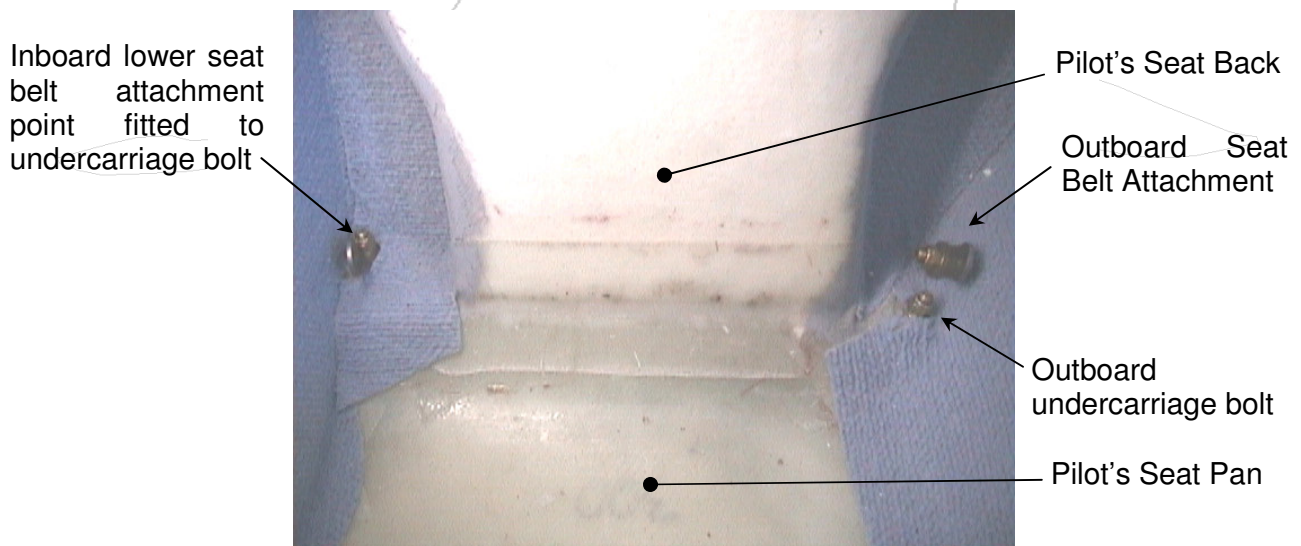

Figure 1. Lower Seat Belt Attachment
Jabiru LSA, SP, UL and early J160 models (including variant models such as Calypso) using the seat belt attachment system shown in Figure 1 below.
In two recent accidents involving Jabiru LSA aircraft the inboard attachment bolt for one of the main undercarriage legs has been torn out through the fuselage structure. Some Jabiru models (see above) use this bolt as the fastener for the inboard lower seat belt attachment. Refer to Figure 1 below.
- ii) Remove the lower inboard seat belt attachment from the lug fitted to the undercarriage bolt (Refer to Figure 1).